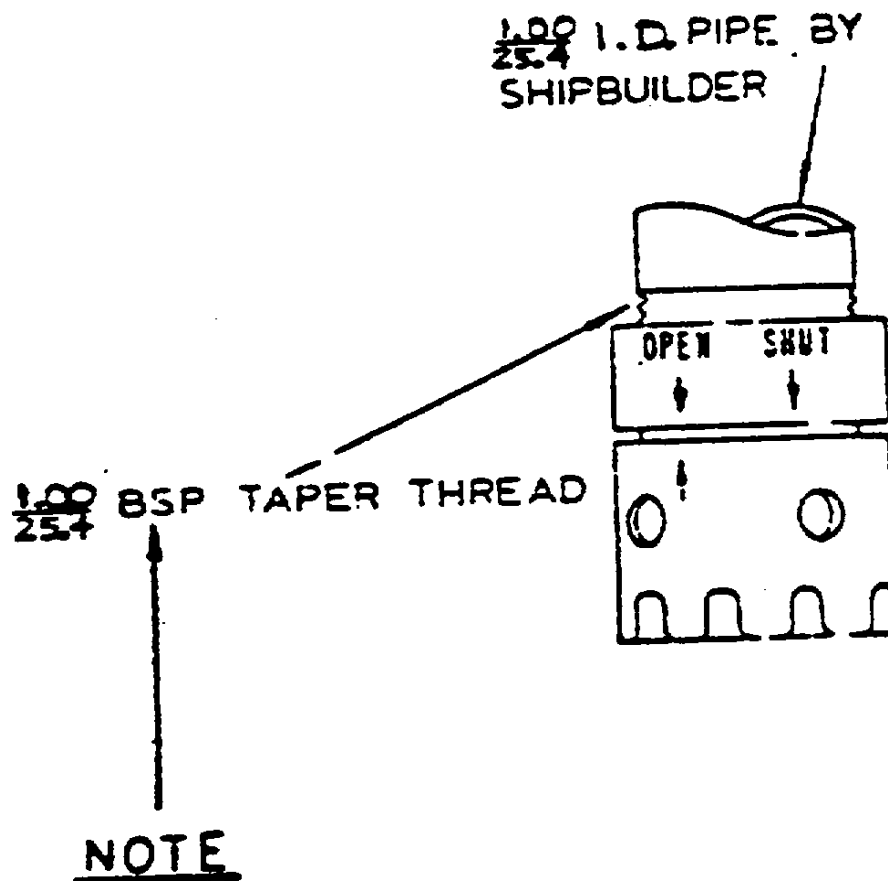

Figure 4-4. Olfactory Valve, 219410
- 4.11 The olfactory valve has a shut-off control to regulate the amount of air being discharged into the wheelhouse (Figure 4-4).